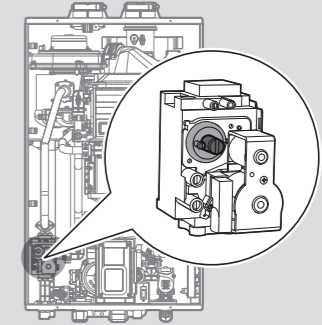

Figure 10
- Fully open a hot water fixture and set the water heater to operate at 1-stage MIN mode (refer to page 8). Measure the offset value at low fire and compare it to the values in Table 3. If the offset value is out of range, the gas valve set screw will need to be adjusted. If adjustment is necessary, locate the set screw as shown in Figure 10. Using a ⁵/₃₂ in or 4 mm Allen wrench, turn the set screw no more than ¹/₄ turn clockwise to raise or counterclockwise to lower the offset value.